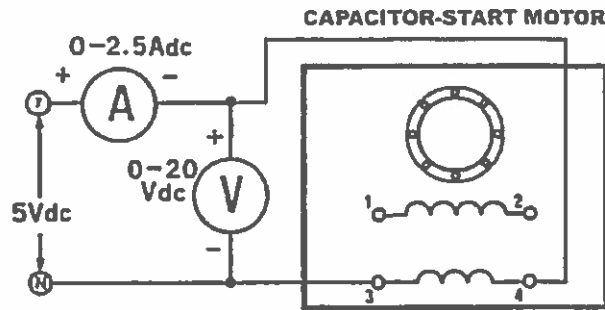

Figure 31-2.
- ☒ 8. Return the voltage to zero and turn off the power supply. Connect the circuit shown in Figure 31-2.